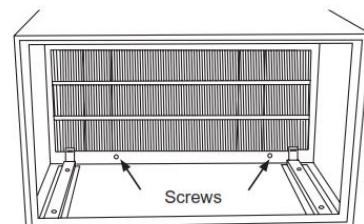

Figure 9
- Line up the two holes in the bottom wall sleeve frame with the screw holes in the grille. (Figure 9) If no screws provided secure grille to wall sleeve from inside outer wall sleeve.